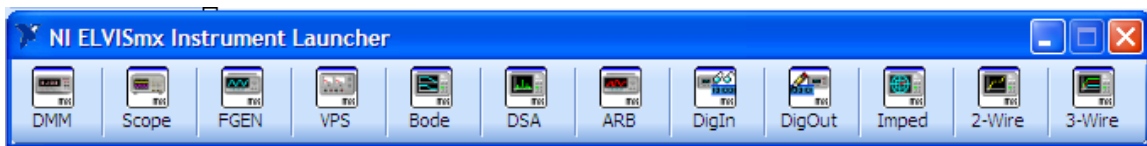

Fig. 8. NI Elvis Software interface.
- Go to the program menu on your computer and launch NI ElvisSmx Instrument Launcher in the NI ElvisSmx program. The interface should appear on your screen as shown in Fig. 8. This interface shows all the Virtual Soft Front Panels (SFP) available in NI Elvis.